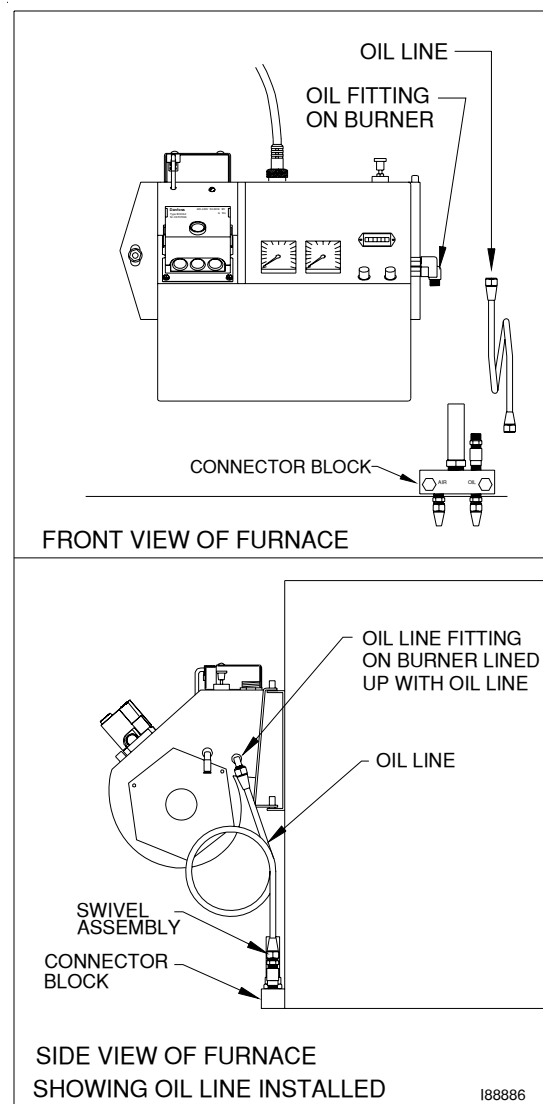

Figure 3H - Installation of Connector Block and Oil Line
1. Refer to Figure 3H.
2. Use the two (2) bolts to install the aluminum connector block onto the furnace door.
3. Use a wrench to slightly rotate the oil line fitting on the burner counterclockwise so the tubing lines up with the swivel assembly. Slightly bend the tubing as shown in Figure 3H, if required, to "line up" the oil line.
5. Make sure that the curl in the oil line is positioned as shown in Figure 3H so that the burner can swing open correctly.